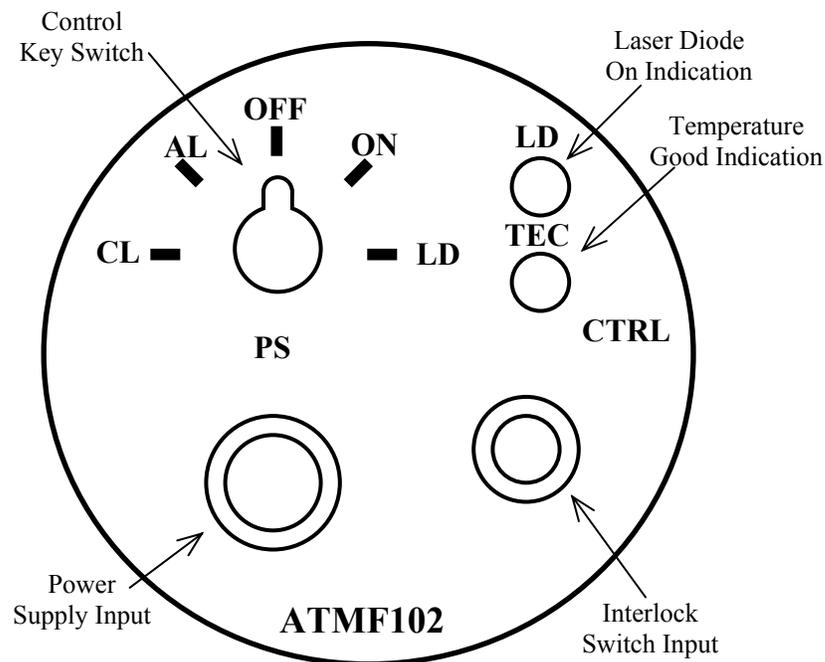

Figure 4 Back View of the Laser
Overall dimensions:	See the drawings in Figure 4 to 6
3. Check the AC main voltage by some way and make sure that it is within the voltage required by the power supply. If yes, plug the power supply input terminals into the AC main and insert the output plug into the socket for the power supply on the back of the laser, see Figure 4.
4. Insert the interlock switch cable plug into the interlock switch socket, see Figure 4. This cable can be connected to a mechanical switch if the laser needs to be controlled remotely, to an electronic switch if the laser needs to be controlled by an electronic circuit, the digital I/O port of a computer if the laser needs to be controlled by software, or simply short circuit the cable if choosing not to control the laser by this switch.